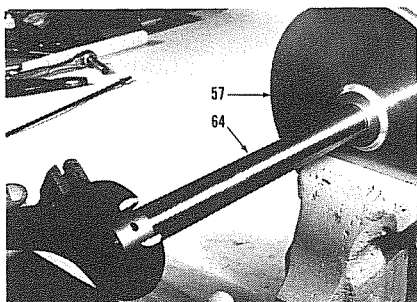

Figure 7-8, Assembling air piston on piston rod.
7.2.2 With air piston (57) gripped in rise, torque rod (64) securely into piston. Check for aluminum chips (from air piston) on exposed end of rod; clean rod end. See Figure 7-8.